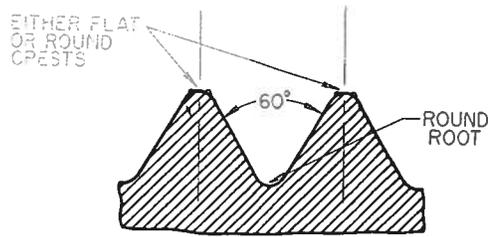

Fig. 19-9 The Unified Screw Thread Form.
The **Unified Screw Thread** generally has rounded roots and may have either rounded or flat crests (Fig. 19-9). These are the main differences from the American National thread form. American industries use flat crests, while the English prefer rounded crests. The
In 1949, the **International Standards Organization (ISO)** recommended worldwide adoption of three series of metric threads. These threads are based on the same 60-degree thread form adopted for the **ISO Inch (Unified)** threads, (Fig. 19-9). The three series are (1) **ISO Metric coarse pitch**, (2) **ISO Metric fine pitch**, and (3) **ISO Metric constant pitch**. **ISO Metric and ISO Inch threads have the same thread form but are not interchangeable because of differences in diameters and pitches.**